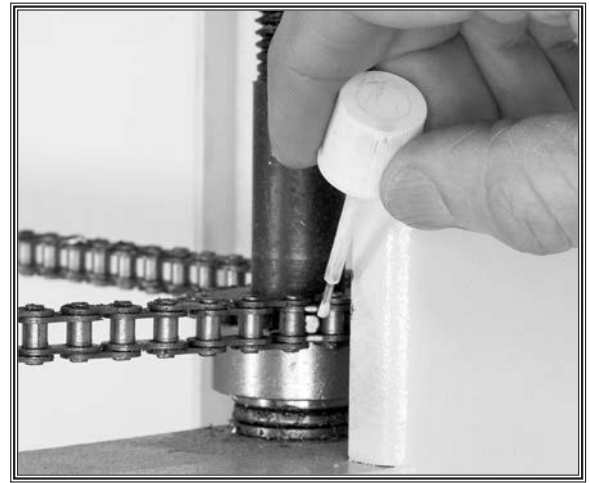

Figure 63. Marking sprocket tooth and chain.
4. At the lift screw that needs to be adjusted, mark the end of a sprocket tooth and the chain hole where that tooth is meshed, as shown in **Figure 63**.